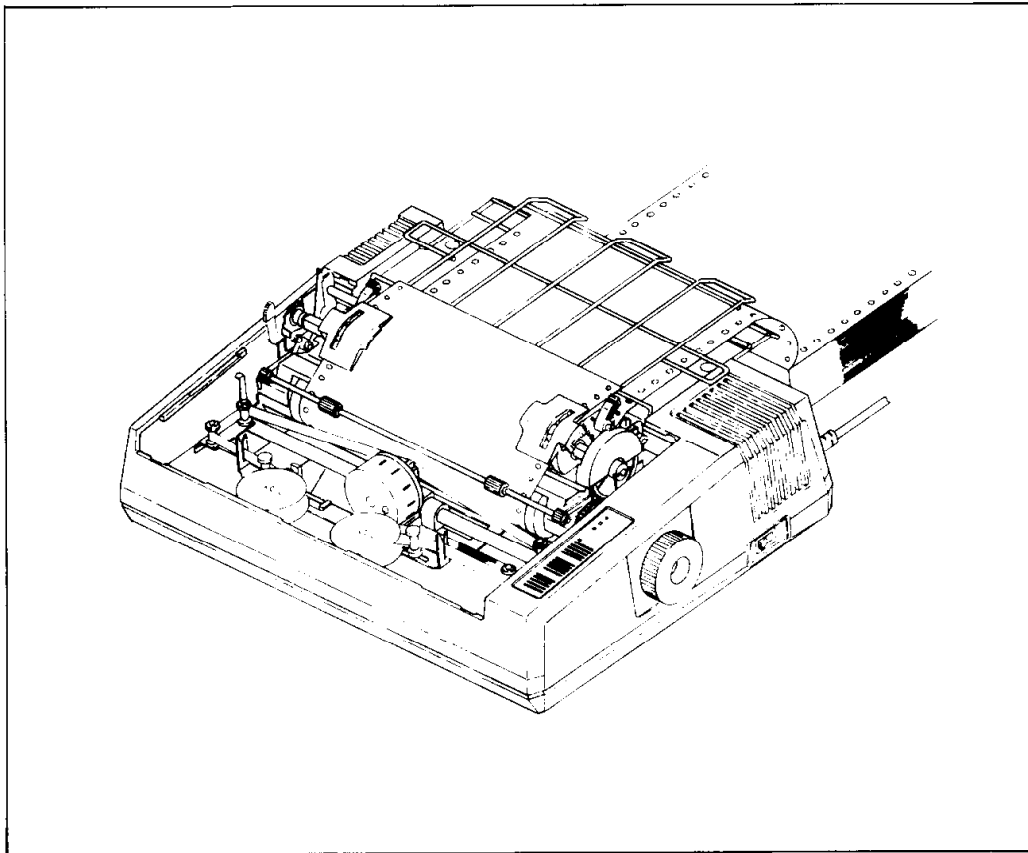

Figure 2-8. SG-10/15 ready to run with sprocket-feed paper.
11. When holes fit snugly over the nubby teeth in both sprockets, close the tractor covers and snap the clamp levers back into their locked position (Figure 2-8).